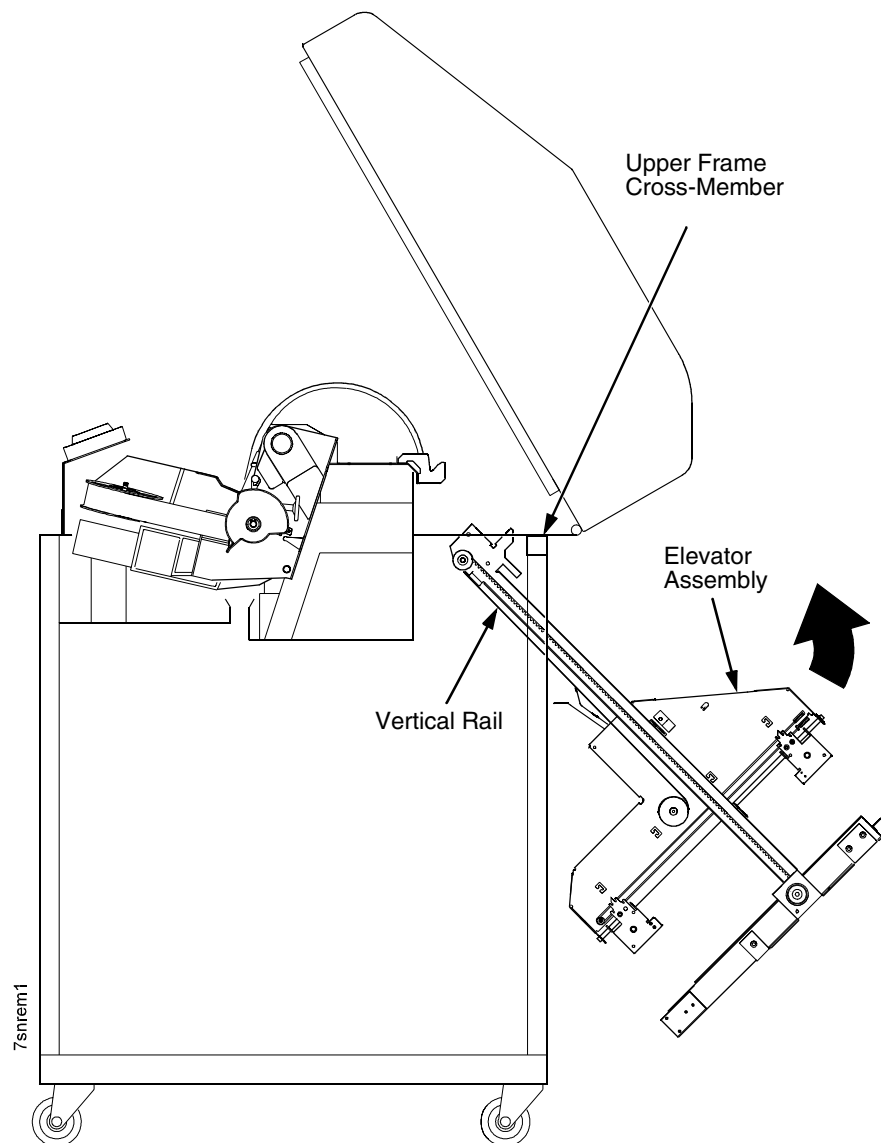

Figure 80. Removing the Stacker Assembly
15. Slide the stacker assembly slightly to the right to clear the air exhaust duct. Tilt the vertical rails toward the front of the printer until they clear the upper frame cross-member. Grasping the stacker assembly by the vertical rails, lift and slide it to the rear and angle it out of the cabinet, as shown in Figure 80.